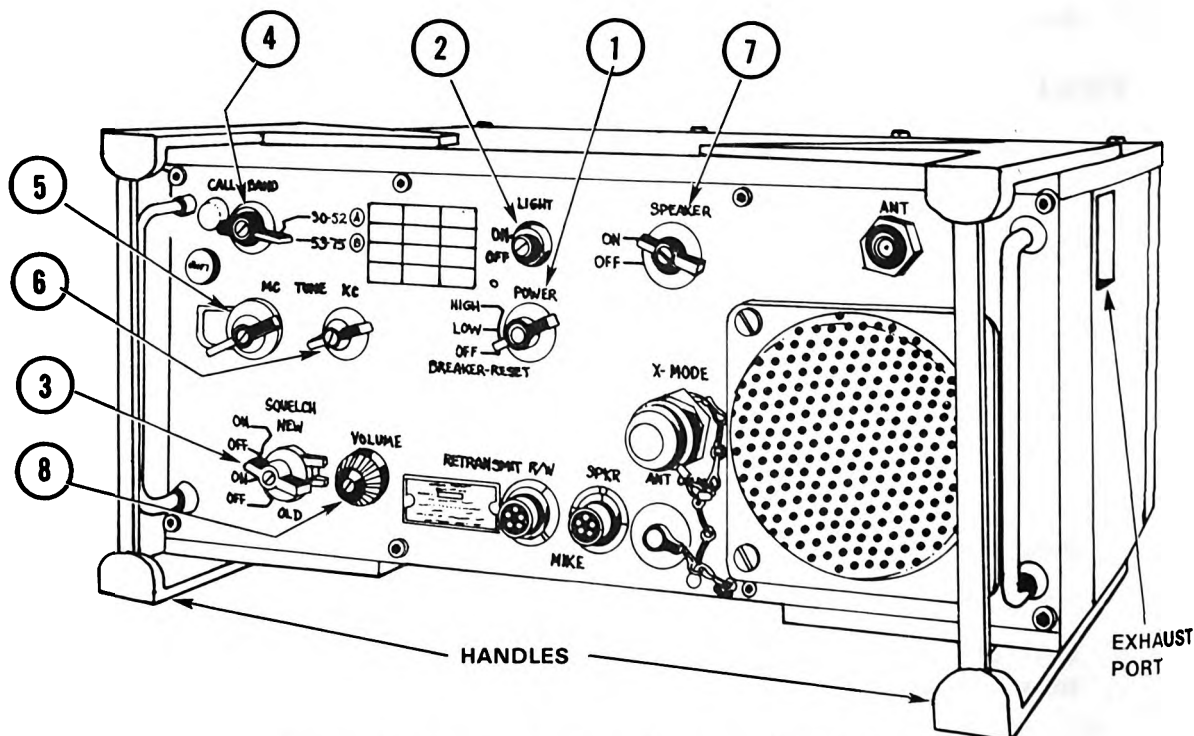

Figure 1. Receiver-transmitter, radio RT-524/VRC.
2. To operate receiver-transmitter RT-524/VRC (figure 1).
- b. The numbers within the steps below are keyed to the numbers in figure 1.
- (1) Set POWER switch (1) to LOW power position.
- (2) Set LIGHT switch (2) to ON position.
- (3) Set SQUELCH switch (3) to desired mode of operation (NEW - ON position).
- (4) Set BAND switch (4) to position of given operating frequency (A-Band).
- (5) Turn MHz control (5) to desired frequency.
- (6) Turn KHz control (6) to desired frequency.
- (7) Turn SPEAKER control (7) to ON.
- (8) Turn VOLUME control (8) to desired listening level.
- c. Make a radio check with the squelch switch (3) OFF.
- d. Turn BAND switch (4) to B-Band.
3. To operate AN/VRC-47 (figures 1 thru 6).
b. To operate the receiver-transmitter 524 (figure 1), refer to paragraphs 1 and 2 above.